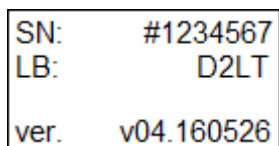

Figure 5. Service Information Screen.
The Service information screen (Figure 5) contains the serial number of the logger (SN), the logger label (LB) and the software version (ver.).